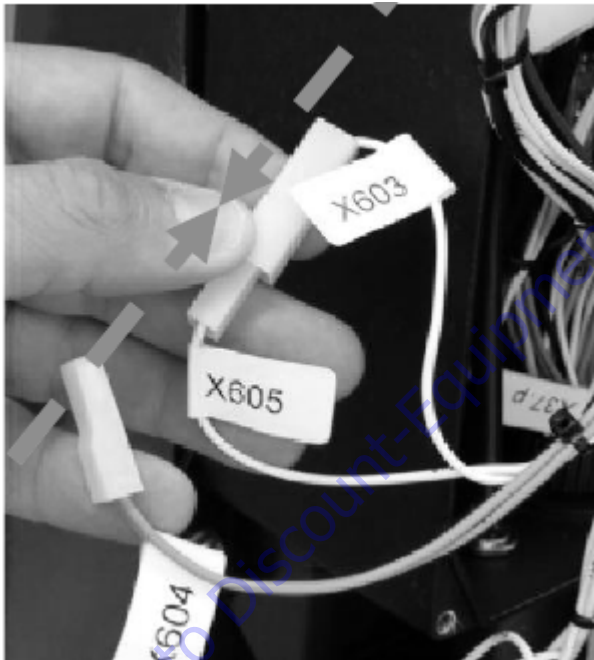

Figure 4-33.
12. Connect connector X603 to connector X605. See Figure 4-33.